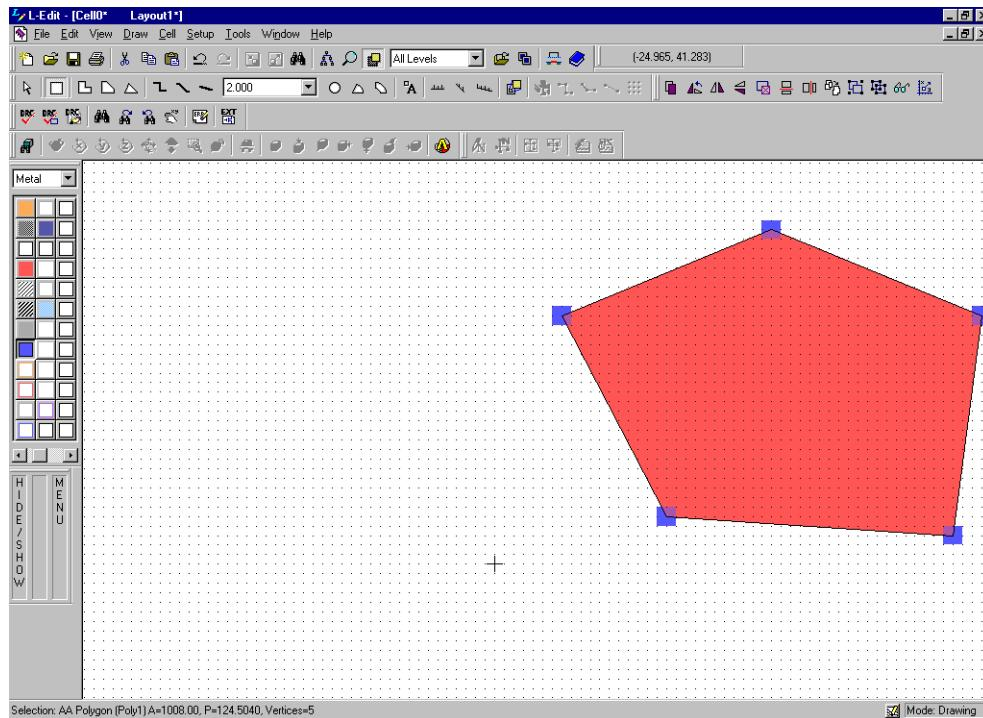

Figure 58: Polygon
- Create a five vertex polygon (Figure 58).